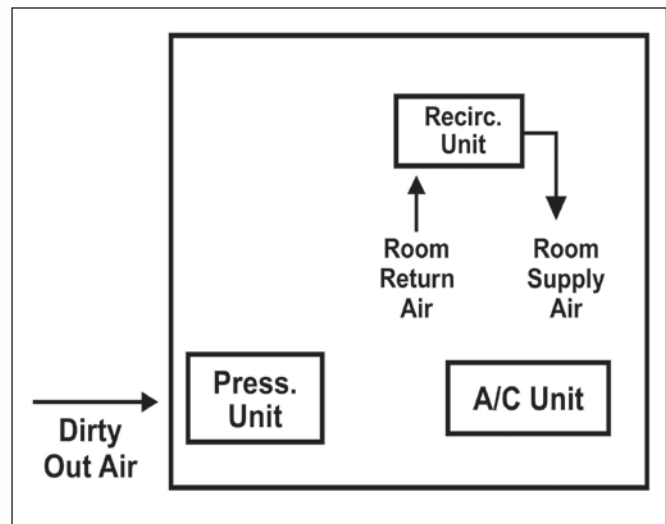

Figure 10: Re-circulation + pressurization system type
3. Re-circulation + pressurization option (as shown in Figure 10).